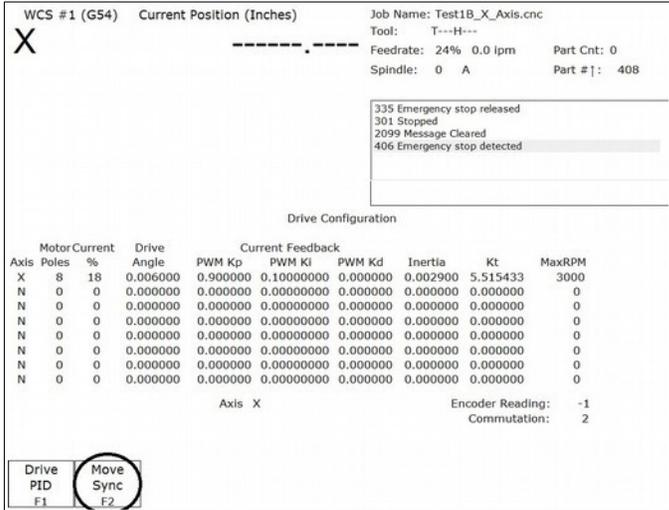
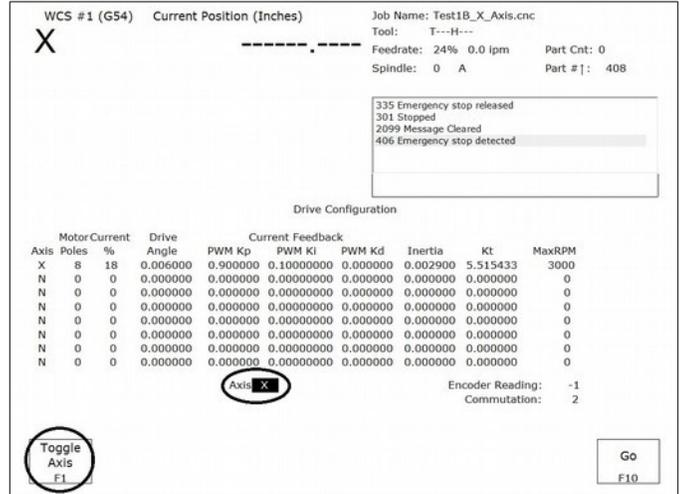

Figure 2. Drive Configuration Menu
Figure 3. Move Sync
7. Go to the drive configuration menu by pressing **F8-Drive** as shown below in Figure 2.
- Press **F2-Move Sync** as circled in Figure 2. The axis selected is shown underneath PWM Kp as circled in Figure 3. If you are not on the correct axis, press **F1-Toggle Axis** until the correct axis label is on the screen. Finally press **F10-GO**. The shaft should rotate. The first move sync rotation may cause the motor to jerk or move roughly. Move sync a few more times by pressing **F2-Move Sync** then **F10-GO** repeatedly. All move syncs after the first sync should cause the shaft to rotate smoothly. **If the motor oscillates wildly, moves erratically, or makes loud unusual noises, kill the motor power immediately!**